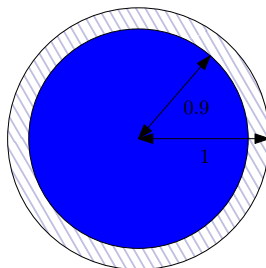

Figure 1: A 2-dimensional unit ball (blue) where the volume located at most 0.1 units from the surface is depicted in dashed lines.
1. In a 2-dimensional unit ball (namely, a disk), how much of the volume is located at most 0.1 units from the surface (see Fig. 1)?